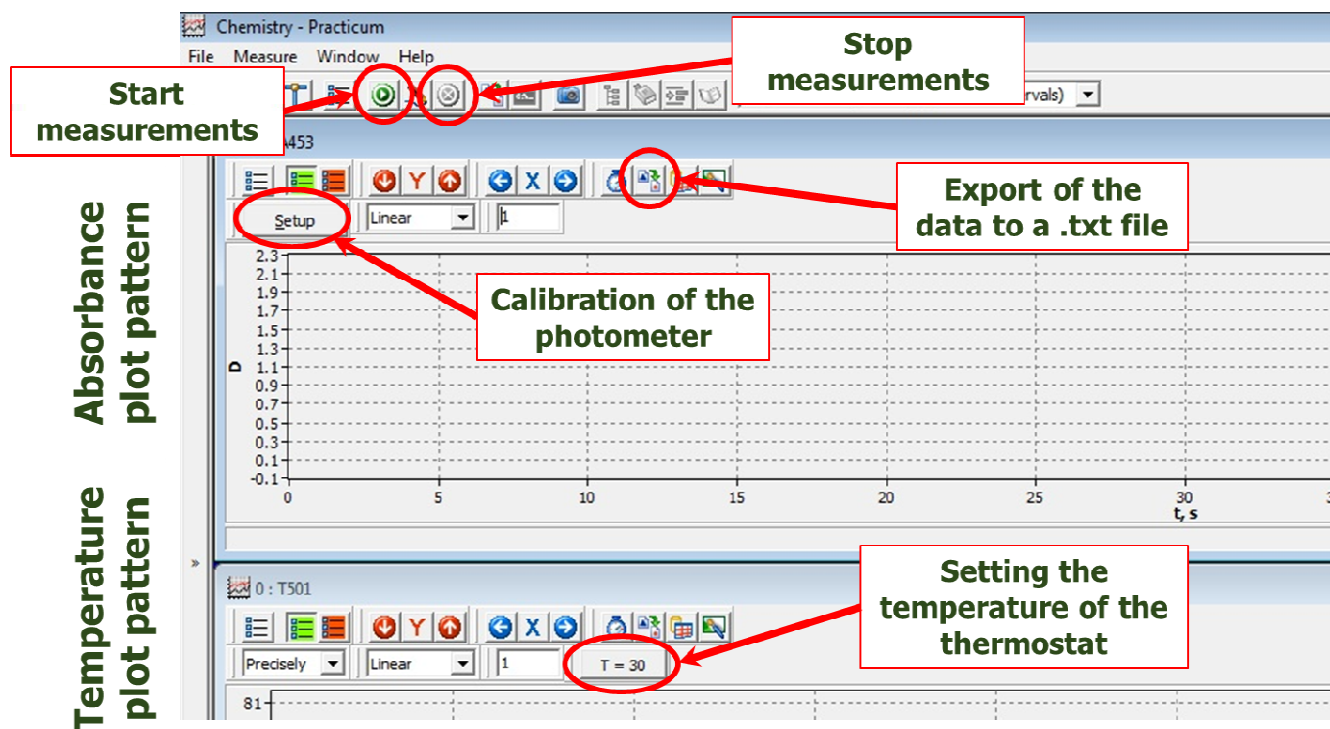

Fig. 6. “Chemistry-Practicum” software interface
- 4) Set the following parameters in the Menu bars of the corresponding plot patterns (Fig. 6):